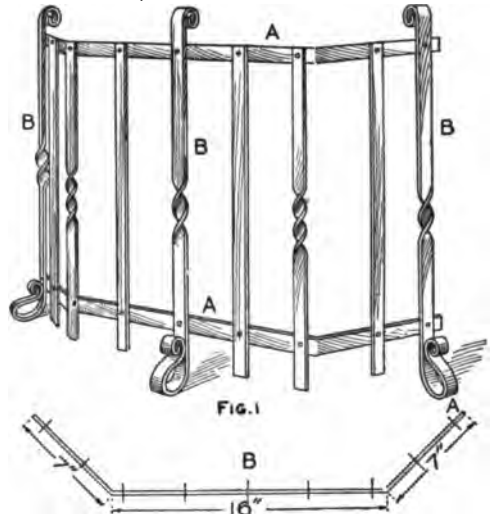
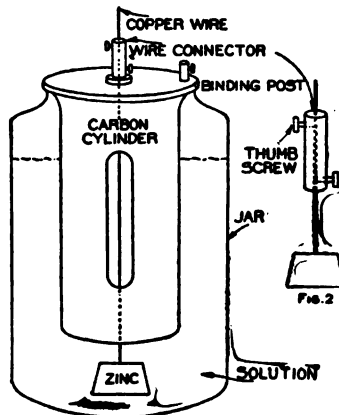

FIG. 2
Fig. 1
$\frac{1}{4}$ in. deep and $\frac{3}{4}$ in. apart on one side of the top and bottom shelves, as shown in Fig. 2, and on both sides of the middle shelf. The shelves should be spaced $9\frac{5}{8}$ in. for 10-in. records and $5\frac{5}{8}$ in. for 6-in. records. A neat scroll design is cut from a board 25 in. long to fill up and finish the space below the bottom shelf.—Contributed by H. E. Mangold, Compton, Cal.
Through the center of a block of wood 4 in. square and $\frac{7}{8}$ in. thick (A, Figs. 1, 2 and 3) saw a circular opening $2\frac{7}{8}$ in. in diameter. On each side of this block cut a larger circle $3\frac{1}{4}$ in. in diameter, having the same center as the first circle (Fig. 3). Cut the last circles only $\frac{1}{4}$ in. deep, leaving the first circle in the form of a ridge or track $\frac{3}{8}$ in. wide, against which the rubber tubing, E, is compressed by wheels. Bore two $\frac{1}{4}$ -in. holes (HH, Fig. 1) from the outside of the block to the edge of the inner circle. Put the rubber tube, E, through one of these holes, pass it around the track and out through the other hole. Notice the break (S) in the track; this is necessary in order to place in position the piece holding the wheels.
and the track (K, Fig. 1) is equal to the thickness of the tubing when pressed flat. If the wheels fit too tightly, they will bind; if too loose, they will let the air through. Bore a hole through the middle of the wheel-holder and insert the crankpin, D, which should be about $\frac{1}{2}$ in. in diameter. The crankpin should fit tightly; if necessary drive a brad through to keep it from slipping.
A screen which will not interfere with the radiation of the heat from the fire, and will keep skirts and children safe can be made at little expense out of some strap iron. The screen which is shown in Fig. 1, stands 20 in. high from the base to the top cross-piece and is made of $\frac{3}{4}$ by $\frac{1}{4}$ -in. and $\frac{1}{2}$ by $\frac{1}{4}$ -in. iron. The top and bottom pieces marked AA, Fig. 1, are $\frac{3}{4}$ by $\frac{1}{4}$ in. and are 30 in. long, bent at an angle to fit the fireplace 7 in. from each end, as shown in Fig. 2. The three legs marked BBB, Fig. 1, are of the same size iron and each leg will take $3\frac{1}{4}$ in. of material. In shaping the feet of these three pieces give them a slight tendency to lean toward the fire or inside of screen, says
a correspondent in the Blacksmith and Wheelwright. In the two cross bars 1 in. from each end, A in Fig. 2, mark for hole and 3 in. from that mark the
Mark the legs $2\frac{3}{4}$ in. from the bottom and 2 in. from the top and after making rivet-holes rivet them to the cross bars, AA, Fig. 1.
Cut six pieces, $17\frac{1}{2}$ in. long and punch holes to fit and rivet onto the remaining holes in cross bars, AA, Fig. 1. Clean it up and give it a coat of black Japan or dead black.
Next procure what is known as a wire connector. This is a piece of copper tube about $1\frac{1}{2}$ in. long having two thumb screws, one on each end on opposite sides (Fig. 2). The upper screw is to connect the battery wire, the lower one to raise and lower the zinc. The battery is now complete, and the solution (Fig. 1) must be prepared. Proceed as follows:
For simple experimental work on distances of 100 ft. only, an ordinary automobile spark coil can be used in place of the more elaborate coil, Figs. 1 to 4.
A small speed-lathe, suitable for turning wood or small metal articles, may be easily made at very little expense. A lathe of this kind is shown in the cut (Fig. 1), where A is the headstock, B the bed and C the tail-stock. I run my lathe by power, using an electric motor and countershaft, but it could be run by footpower if desired. A large cone pulley would then be required, but this may be made in the same manner as the small one, which will be described later.